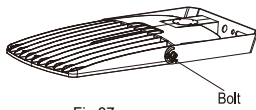

Fig 37
Step 1: Use a wrench to loosen the adjustment Angle screws on both sides of the lamp, as shown in Figure 37: